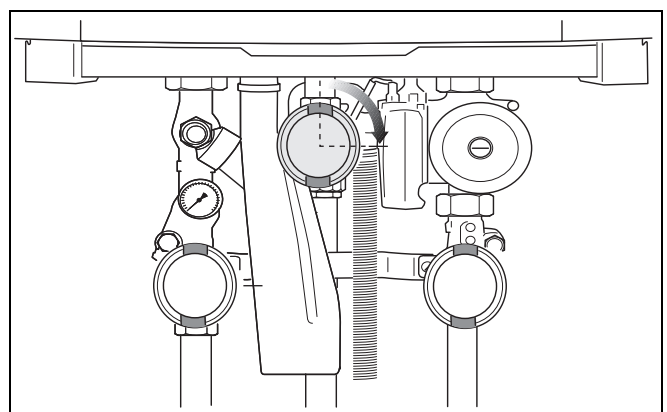

fig. 22 Closing the gas valve (here: closed)
- Close the main gas supply or the gas valve (→ fig. 22).